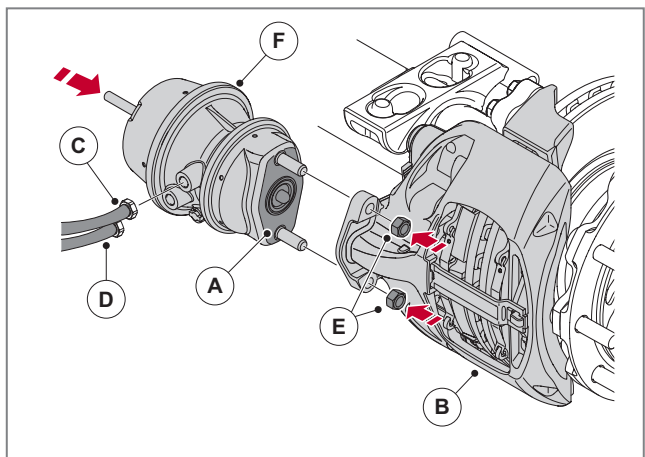

Fig. 46 - Installing the brake chamber components
5. Affix the new brake chamber (A) to the brake calliper (B) using the nuts (E), see ► Fig. 46. Screw on the nuts before tightening in order to ensure parallel seating of the brake chamber. The brake chamber nuts must be tightened to 180 - 210 Nm.
- Secure the service brake hoses (C) and, if applicable, the parking brake hoses (D). When fitting the hoses, ensure that the connections (C) and (D) are correctly assigned, see ► Fig. 46.